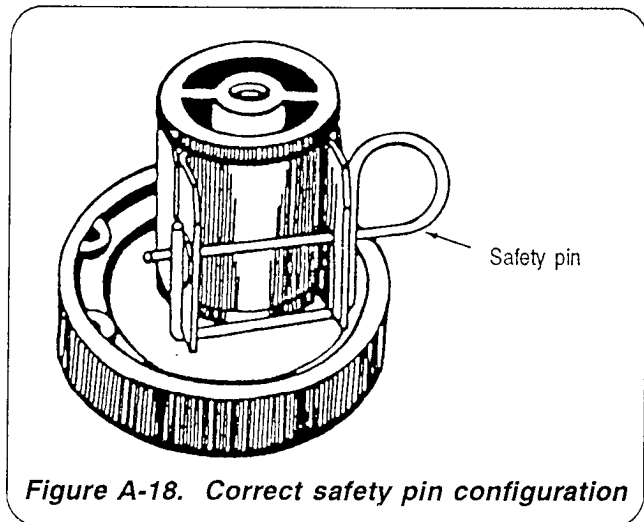

**Figure A-17. M15 antitank mine**
- b. Use the M20 arming wrench to unscrew and remove the arming plug from the mine (Figure A- 17).